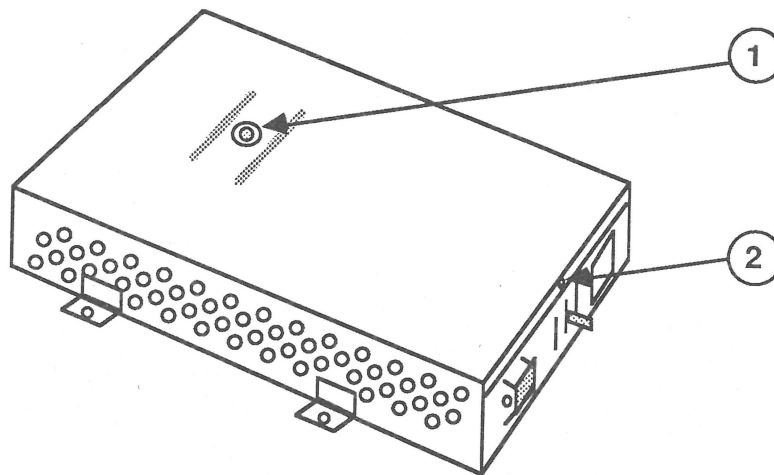

FIGURE 21
6. Remove the top screw and washer (Figure 21, #1) and the end screw (Figure 21, #2) from the power supply cover. Lift the cover free.